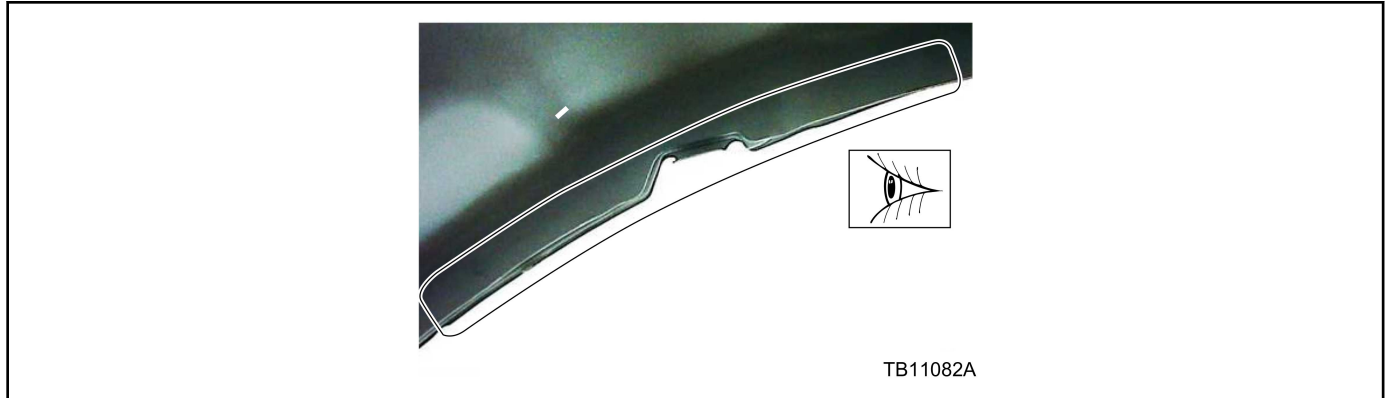

Figure 14 - Article 17-0044
- d. Inspect the backside of the upper wheel arch area for gaps. Seal as necessary using Motorcraft® Seam Sealer or equivalent. (Figure 14)